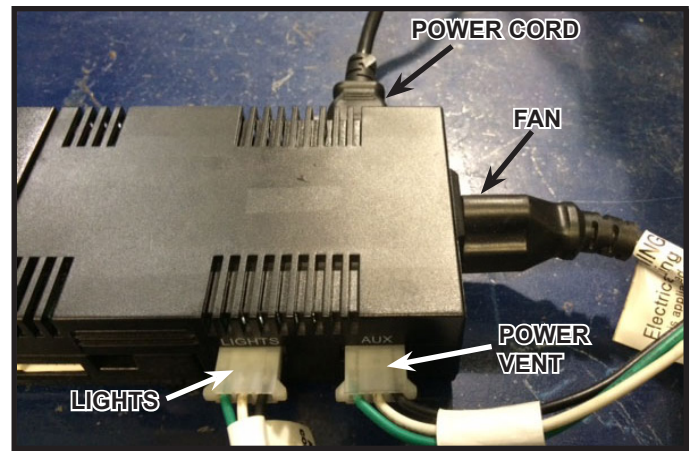

Figure 4.9. Fan, Lights and Power Vent Connection
- To connect a fan kit to the IFT-ACM, insert the three prong male plug from the fan into the receptacle located on the right side of the IFT-ACM. See Figure 4.9.
- To connect a light kit to the IFT-ACM, remove protective rubber cap labeled 'LIGHTS' and connect to the female cord that was supplied in your lights kit into the three male pins on the IFT-ACM. See Figure 4.9.
- To connect a power vent kit to the IFT-ACM, remove protective rubber cap labeled 'AUX' and connect to the female cord of the PVI-WH wire harness into the three male pins on the IFT-ACM. See Figure 4.9.
13. Plug (3) connector plug on accessory cable into Power Vent port on IFT-ACM. See Figures 4.9 & 4.10.